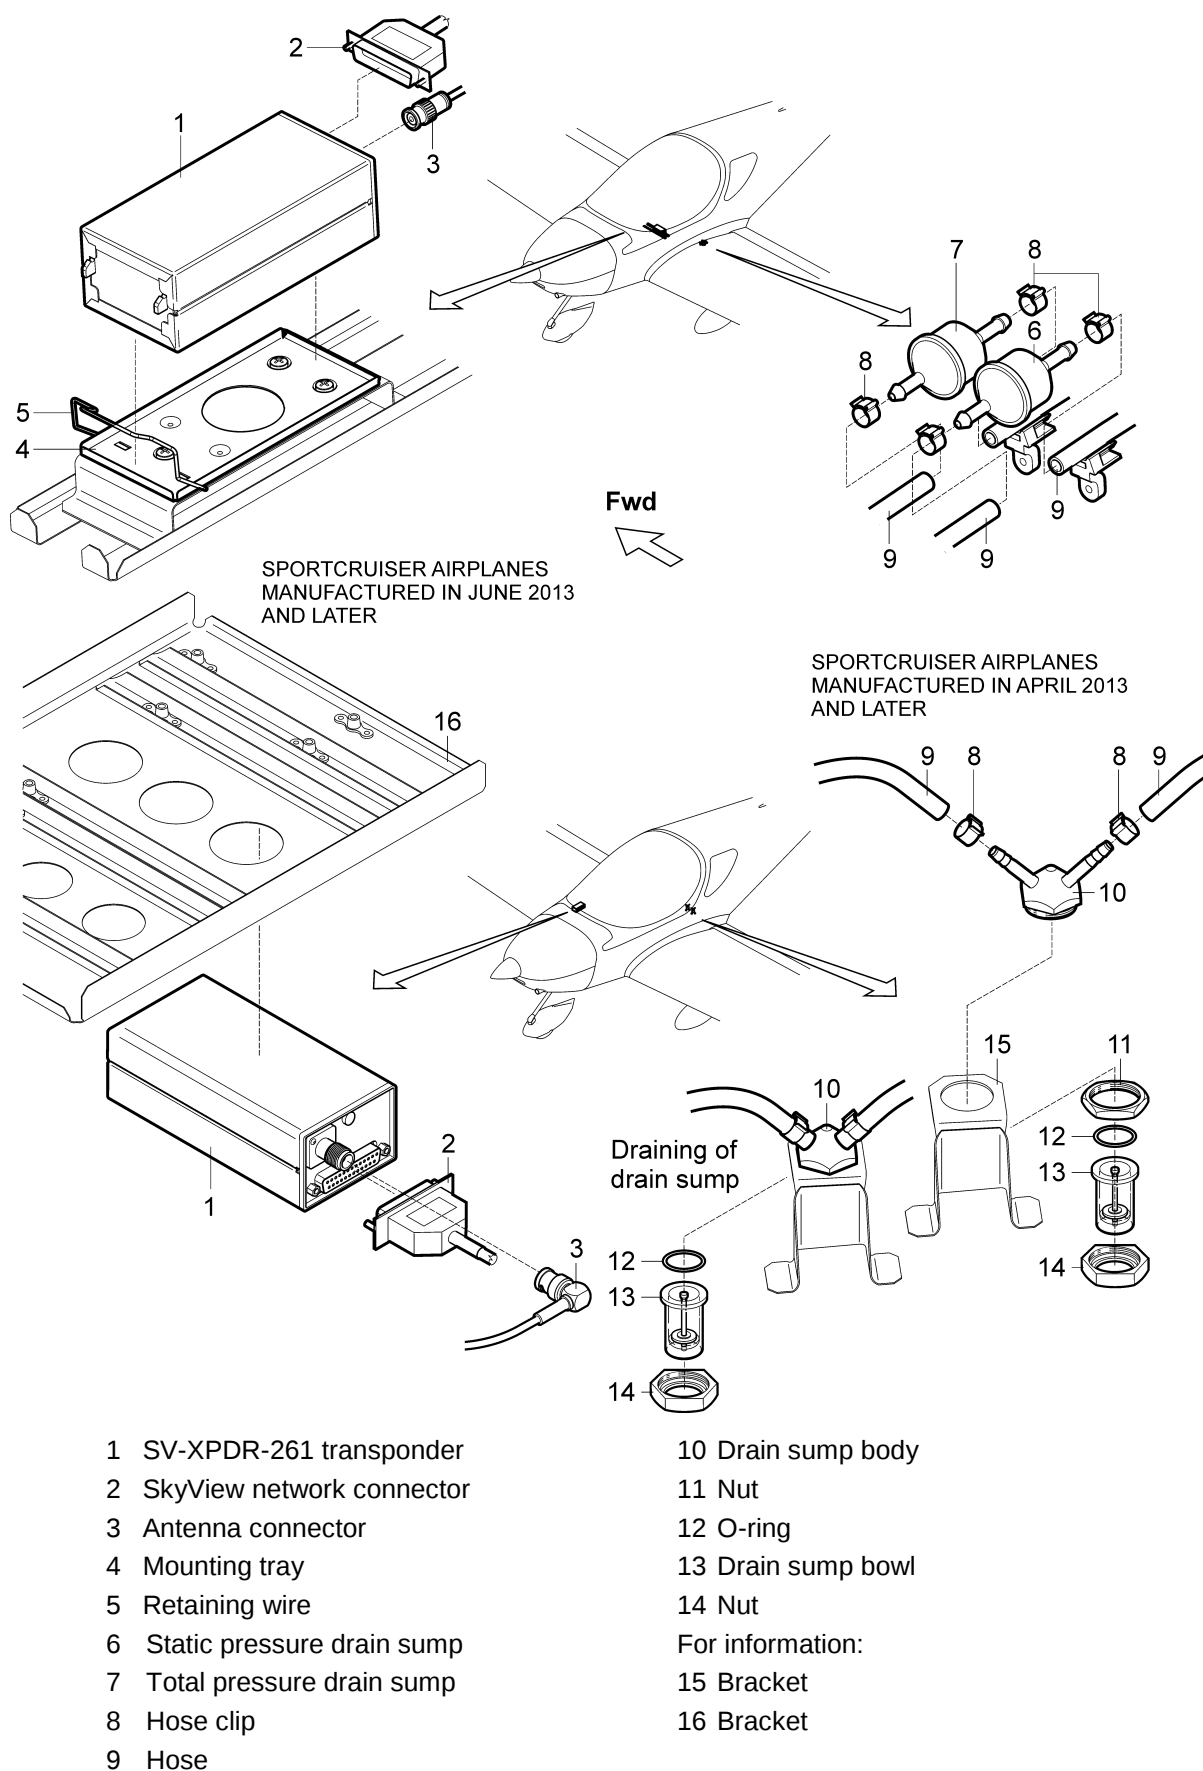

Fig. 12-43: SV-XPDR-261 transponder and drain sumps removal / installation
- (c) Disconnect the connectors (2; 3, Fig. 12-43) from the transponder (1).
- (d) Unlock the retaining wire (5) and remove the transponder (1) from the mounting tray (4). (airplanes manufactured in June 2013 and later have mounting tray installed from below the bracket (16)).
- (b) Put the transponder (1, Fig. 12-43) into the mounting tray (4) by hooking the connector end under the lip on the tray.
- (c) Lock the transponder (1) into the mounting tray (4) by clipping the retaining wire (5) over the lugs on the opposite end (airplanes manufactured in June 2013 and later have mounting tray installed from below the bracket (16)).
- (b) Remove the hose clips (8, Fig. 12-43) from hoses (9).
- (c) Disconnect hoses (9) of from the drain sump body (10); install protective covers on the hoses and hose ports of the drain sump body.
- (d) Unscrew and remove the nut (14) with the drain sump bowl (13); unscrew and remove the nut (11) and remove the drain sump body (10) from the bracket (15).
- (b) Insert the drain sump body (10, Fig. 12-43) into the hole in the bracket (15) and fasten it with the nut (11).
- (c) Check the condition of the o-ring (12) a transparent drain sump bowl (13) - replace damaged parts.
- (d) Insert the O-ring (12) to the drain sump body (10), set the drain sump bowl (13) to the drain sump body, screw and carefully tighten the nut (14).
- (c) Disconnect hoses (9) of static and total pressure from the drain sumps (6; 7).
- (e) Connect the hoses (9) to the drain sumps (6; 7) and secure them with cable clips (8).
- (b) Unscrew and remove the nut (14, Fig. 12-43) with the drain sump bowl (13).
- (c) Clean and dry the drain sump bowl (13).
- (d) Check the condition of the o-ring (12) a transparent drain sump bowl (13) - replace damaged parts.
- (e) Insert the O-ring (12) to the drain sump body (10), set the drain sump bowl (13) to the drain sump body, screw and carefully tighten the nut (14).